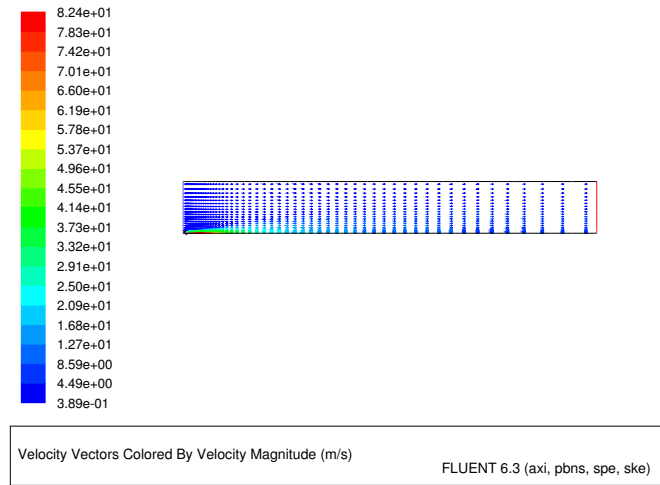

Figure 13.6: Velocity Vectors: Variable C_p
3. Display velocity vectors (Figure 13.6).